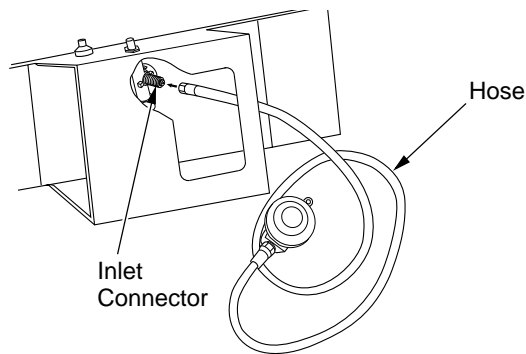

Figure 7 - Hose and Inlet Connector
- Connect hose to valve inlet (see Figure 7). Tighten firmly using a wrench.